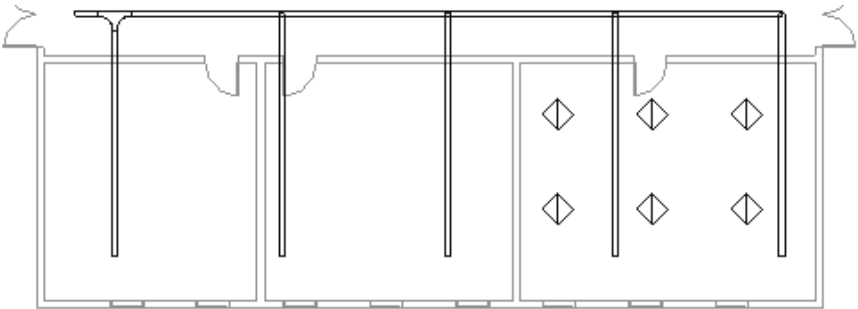

Figure 2-90
- 5. Select the new cable tray (ensuring that the offset is to the right) and continue until there are five total trays, as shown in Figure 2-90.